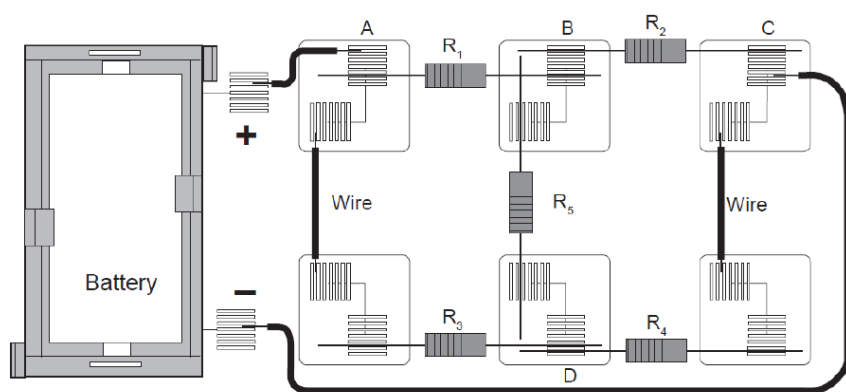
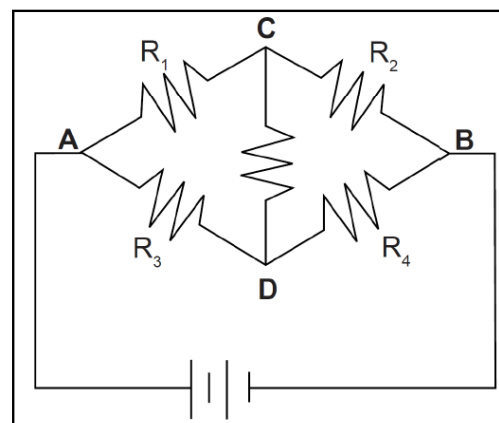

Figure 7.1a
Figure 7.1b
1. Connect the circuit shown in Figure 7.1a using any of the resistors you have **except the 4.7 Ω or 10 Ω ones**. Use Figure 7.1b as a reference along with 7.1a as you record your data. Before adding each resistor to the circuit, record their resistance values in Table 7.1 below.
2. With the circuit connected to the battery and the current flowing, measure the voltage across each of the resistors; record the values in Table 7.1. On the circuit diagram in Figure 7.1b, indicate which side of each of the resistors is positive relative to the other end by placing a "+" at that end.